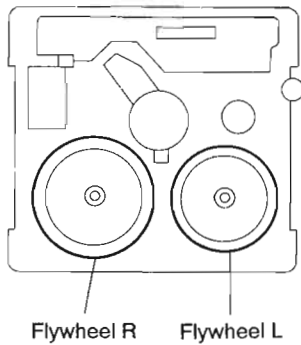

Fig.3-32
■ **Removing the Flywheel (See Figs. 3-32,3-33)**
3. After turning over the cassette mechanism,remove the slit washers ① and ② fixing the capstan shafts R and L,and pull out the flywheels R and L respectively from behind the cassette mechanism.